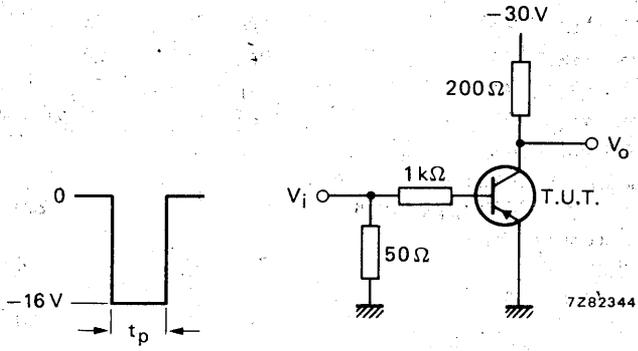
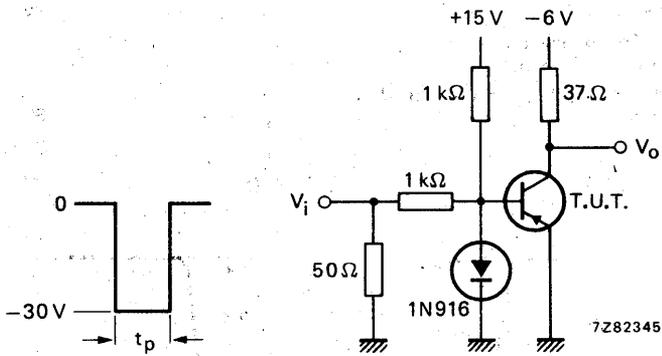

Fig. 3 Turn-on switching time test circuit.
Fig. 4 Turn-off switching time test circuit.
- I_C = 150 mA; -I_B = 15 mA; (see Fig. 3)
to cut-off with +I_{BM} = 15 mA (see Fig. 4)
Fig. 3 and Fig. 4